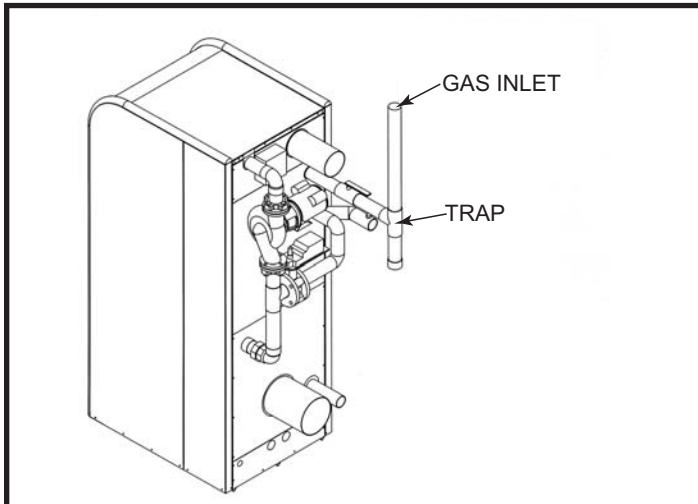

FIG. 34 Gas Line Connection to Unit with Sediment Trap and Manual Main Gas Shut-off Valve
5. Install a sediment trap in the supply line to the units gas inlet. (see Figure 34).